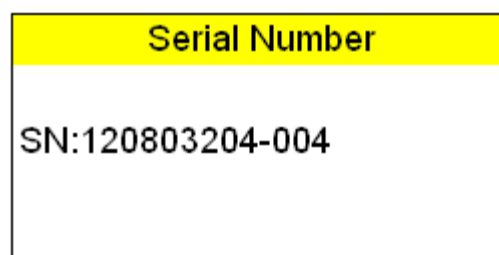

Figure 141
- B. Press  button to the viewing mode as shown in Figure 141.